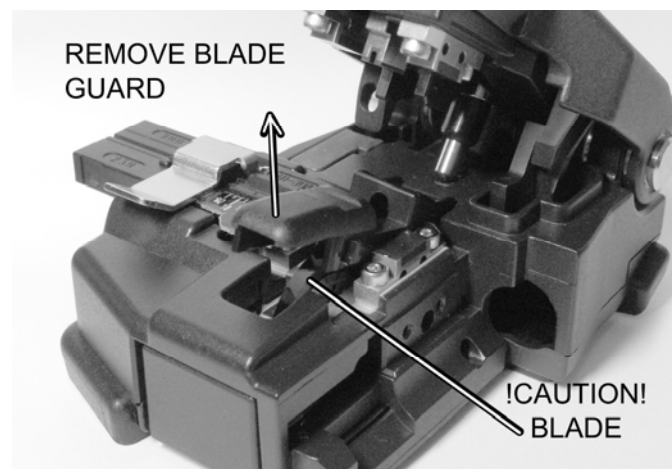
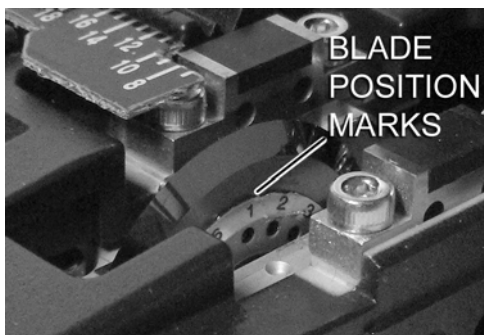

Fig. 5: Blade guard removal
Fig. 6: Blade exposed with rotation marks.
3. Lift the blade guard and pull it away to expose the blade (Fig. 5). Note the blade position reference marks (Fig. 6).
3. Use a pin or dental pick to rotate the blade to the next reference mark (Fig. 6). The small dots below the numbers are slightly indented to make it easier rotate the blade precisely. After position 16 has been used, the blade height should also be raised after rotating the blade to position 1.
6. Reinstall the blade guard (Fig. 5), scrap collector mechanism (Figs. 2 & 3), and the large fiber scrap container (Fig. 1)
4. Reinstall the blade guard (Fig. 5), scrap collector mechanism (Figs. 2 & 3), and the large fiber scrap container (Fig. 1)